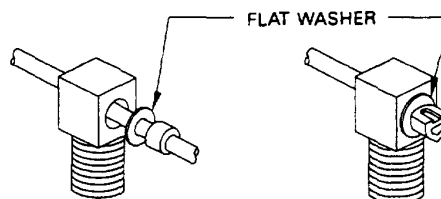

Figure 2-83. Flat Washer Safety Cable Installation (FW10-1)
(1) 0.020 inch diameter safety cable is intended for use on parts having a nominal hole diameter of 0.045 inch (1.14 mm) or smaller.
(2) 0.032 inch diameter safety cable is intended for use on parts having a nominal hole diameter of 0.075 inch (1.91 mm) or smaller.
(3) 0.040 inch diameter safety cable is intended for use on parts having a nominal hole diameter of 0.095 inch (2.41 mm) or smaller.
(4) The specified length of the cable shall be selected to accommodate the span between fasteners added to the length of cable required to correctly engage the application tool.
(5) Applications where safety cable is to be installed through a hole having a nominal diameter of greater than 0.095 inch (2.41 mm), but less than 0.200 inch (5.08 mm) shall require a flat washer (same material composition as the safety cable) which is supplied by the manufacturer for this purpose, and shall be used as shown in figure 2-83.